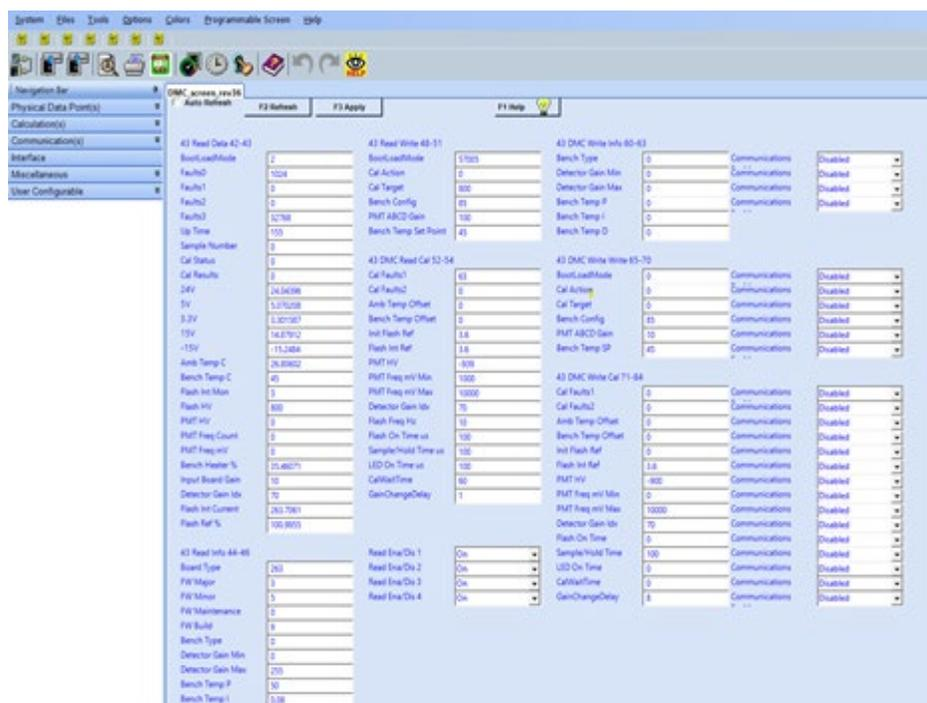

Figure 4-2. DMC screen revXX Pre-Configured Screen
2. DMC_screen_revXX (Figure 4-2)